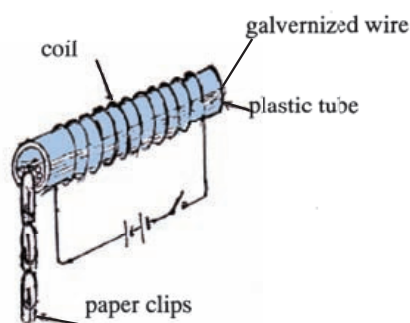

Figure 3.25 Arrangements to find the strength of an electro magnet
- Scrape the insulation of the wire at each ends (Using emery paper or a knife) and connect each end to a circuit as shown in fig 3.25